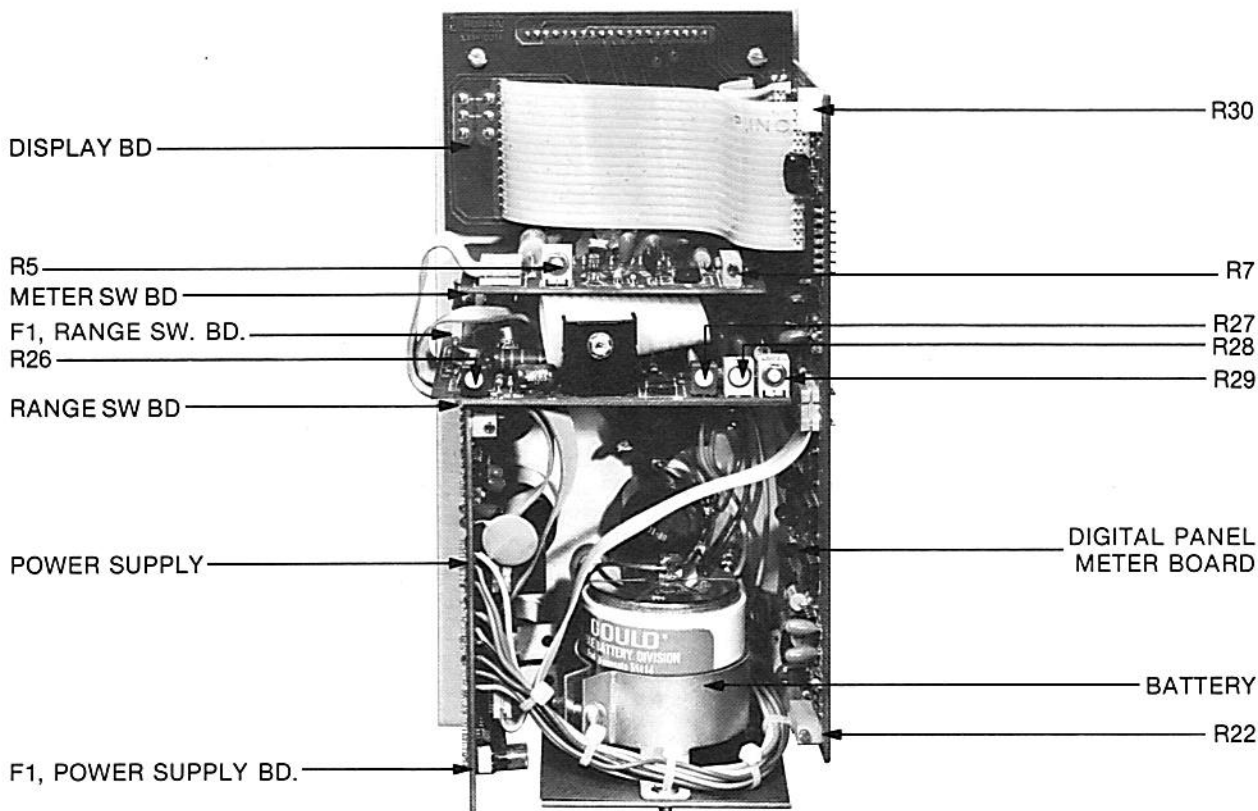

FIGURE 5-2 LOCATION OF CALIBRATION CONTROLS
5.3.2.3 Set the polarity switch of the DC standard to "0" or short the calibrator "+" input lead to the "-" input lead. If the calibrator DPM does not indicate zero,  $\pm 2$  digits, adjust R27 on the RANGE SWITCH board. Refer to Figure 5.2 for the location of the adjustment controls.